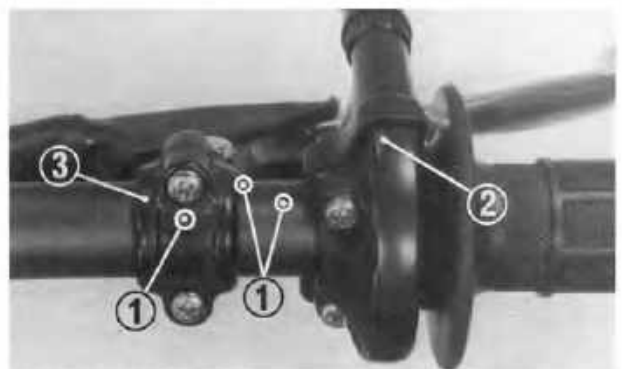

Fig. 4-14 (1) Punch marks
10. Align the end face of the throttle grip housing with the punch mark on the handlebar as shown in Fig. 4-14, and tighten the two screws securely. Also, align the gaps of the front brake lever bracket and clutch lever bracket with the punch mark, and tighten the screw securely. Install the bracket holder with the punch mark facing up.